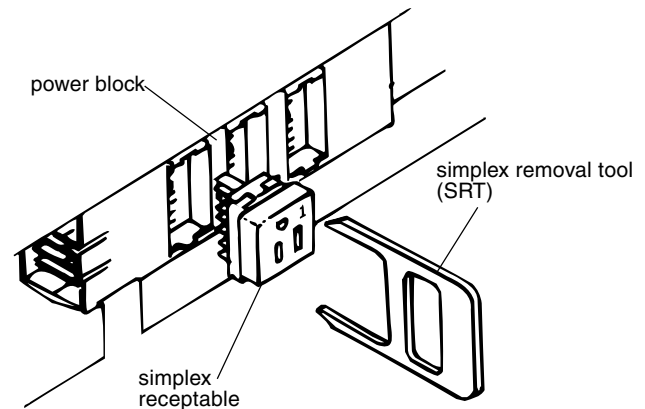

Figure 2
4. Push designated receptacle into the power block until it snaps. It is installed properly when it can not be removed by hand. (Figure 2)